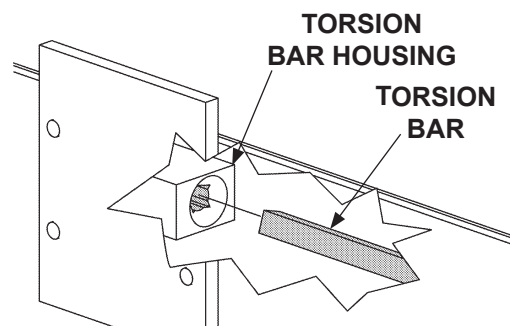

FIG. 22-3
5. Remove torsion bar from torsion bar housing (**FIG. 22-3**).